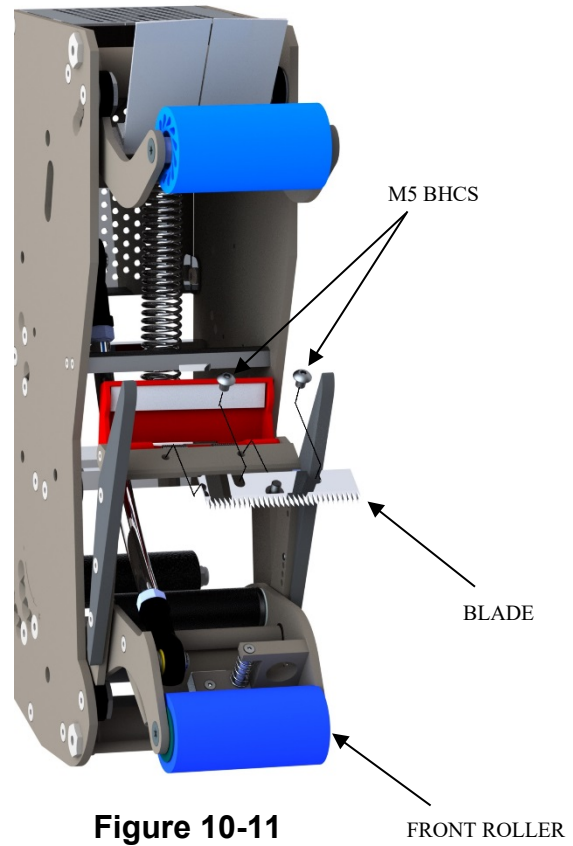

Figure 10-11
4. Re-install the cutter blade as shown in **Figure 10-11**.